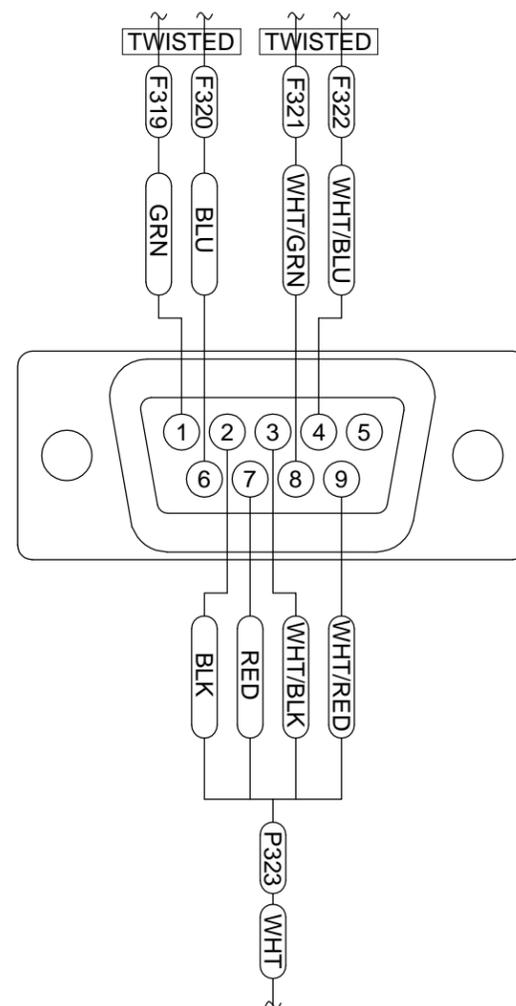

FIGURE 1: INSTALLING PINS INTO THE ADAHRS D-SUB CONNECTOR (REAR VIEW / PIN INSERTION SIDE)
Step 6: Find the WH-P323 (WHT) four conductor shielded wire, twisted WH-F319 (GRN) and WH-F320 (BLU) wires and twisted WH-F321 (WHT/GRN) and WH-322 (WHT/BLU) wires routed previously to the tailcone area coming from the WH-00036 RV-12 Tunnel Conversion Harness and insert them into the ES-205203-3 9-Pin D-Sub as shown in Figure 1.